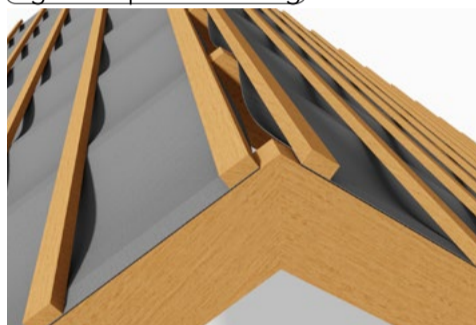

fig 6: Ridge ventilation
7. Where ridge ventilation is not being provided, the Danelaw LR120 should extend over the ridge and overlap the underlay on the opposite side of the roof by the required amount (table 1). When being used in conjunction with ridge ventilation, the underlay should be cut or terminated on either side of the ridge line and secured to ensure that the ventilation path remains clear along the length of the ridge (fig. 6).